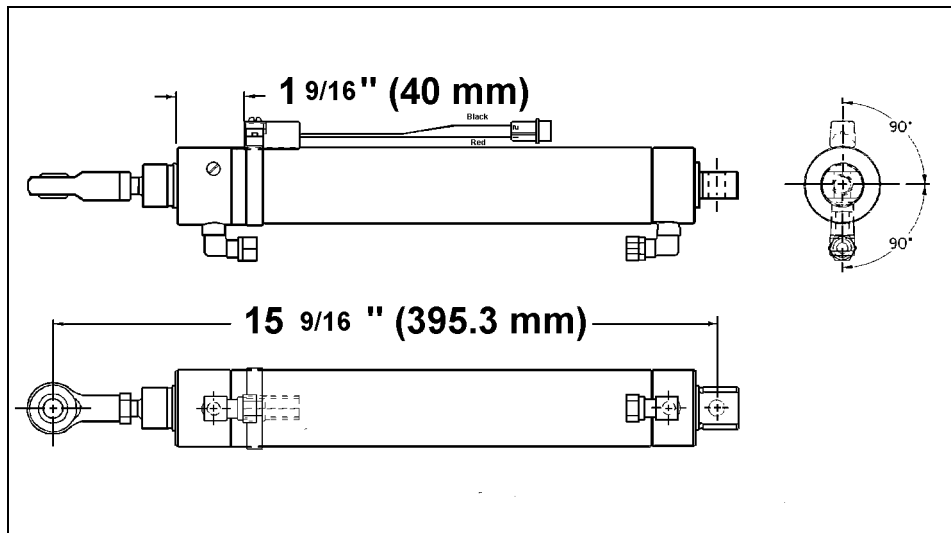

FIGURE 1: CYLINDER - SWITCH ASSEMBLY
1. Assemble cylinder assembly as shown in Figure 1. Teflon tape should be used on all pneumatic connections.
2. Adjust rod length (Fig. 1), refer to section 18 of the maintenance manual.